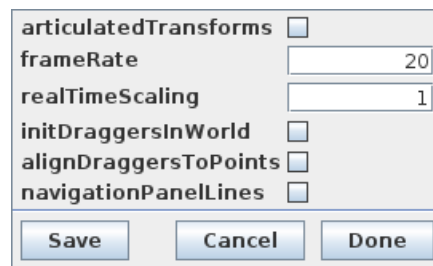

Figure 51: Interaction settings dialog.
*Interaction* settings involve attributes related to the graphical interface and model interaction. They can be adjusted by selecting “Interaction ...” from the Settings menu, which opens an *interaction settings dialog* (Figure 51). Clicking the Save button will save the current settings to the user’s preferences (Section 11.2) so that they will be set automatically when ArtiSynth is restarted. Interaction settings include: